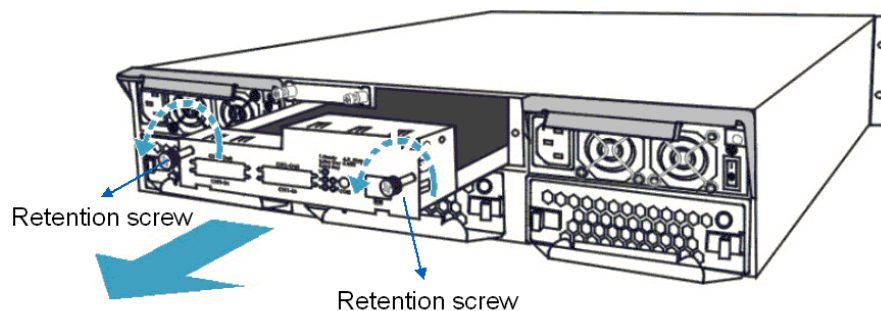

Fig. 6.1 Loosen Controller Module Retention Screws
4. Loosen the retention hand screws: Hand screws are located on both sides of the RAID controller's faceplate. Press these screws and use a Phillips screwdriver to loosen them so that the controller can be removed from chassis. (See *Figure 6.1*)